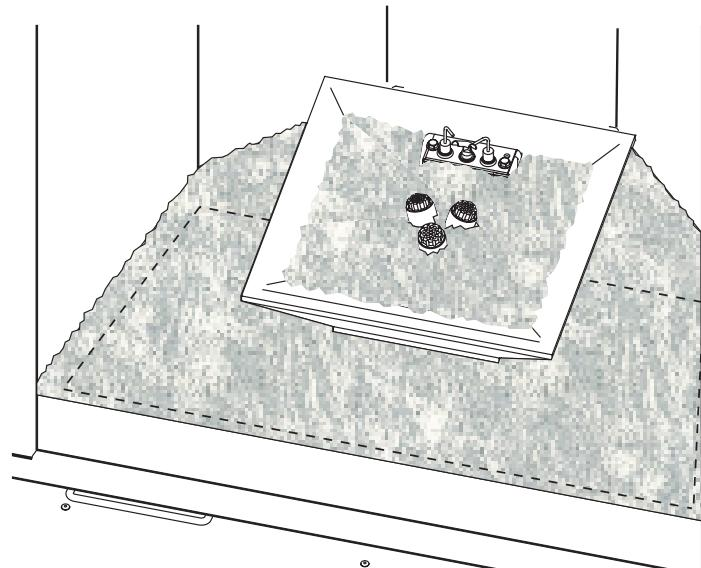

Figure 55
- Using DG1BKP, DG1BUC, or DG1CLF decorative media only, cover the firebox floor surface with a thin, uniform layer. Fill Media Vessel with a thin layer of media. Keep pieces away from the pilot orifice and allow the center burner ports to protrude through. Flame appearance will be affected by the distribution of decorative media. See Figure 55.